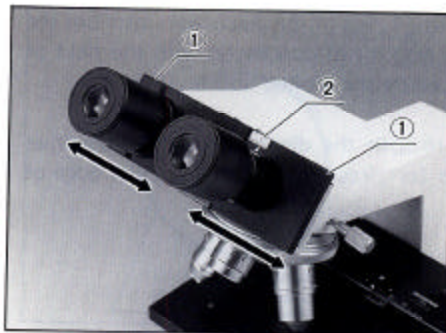

Fig. 17
- 1) Looking through the binocular tube, move the knurled dovetail slides ① in the directions of the arrows until a perfect binocular vision is obtained. (Fig. 17)
- 2) If you memorize your interpupillary distance setting on the scale ② provided between the dovetail slides ①, it is convenient to obtain a proper setting next time. (Fig. 17)